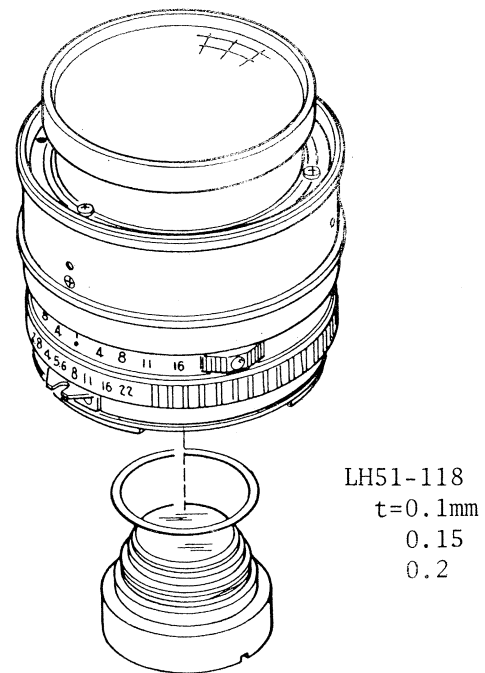

Fig.16
- a The adjustment is made by increase or decrease of the washer as shown in Fig. 16.